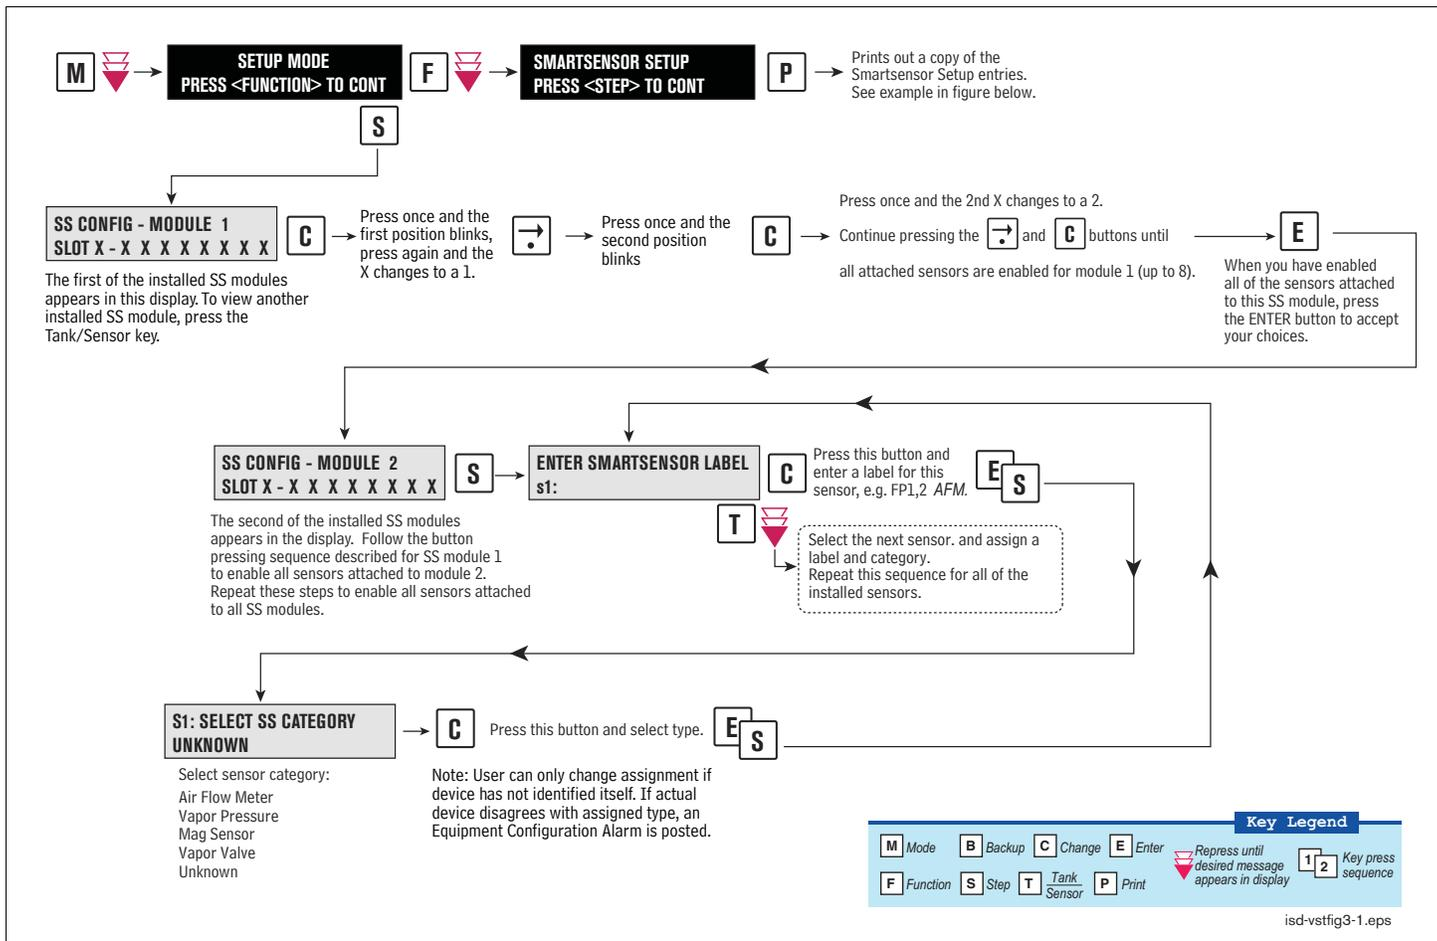
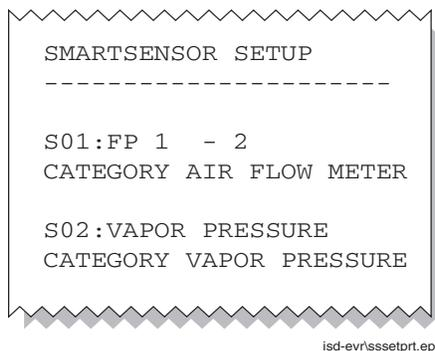

Figure 7. Smart Sensor Setup
Figure 8. Smart Sensor Setup Printout Example
- Smart Sensor Setup - All ISD site (Figure 7)
The I/O Combination Module is installed in the Power bay of the TLS console. Figure 7 diagrams the External Input setup procedure required with the Hirt VCS 100 processor.
The Smart Sensor Interface Module is installed in the Intrinsically-Safe bay of the TLS console. This module monitors Air Flow Meters, ATM, Vapor Valve and the Vapor Pressure Sensor. Figure 7 diagrams the Smart Sensor setup procedure. Figure 8 shows a printout of the Smart Sensor setup.